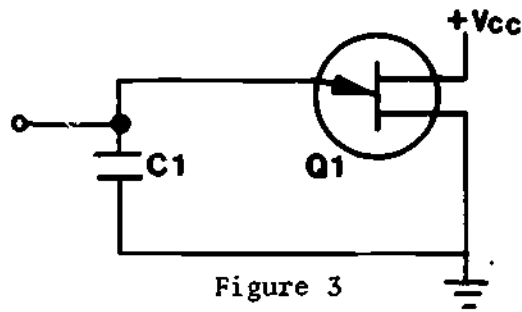

Figure 3
11. In the circuit shown in figure 3 C1 charges through